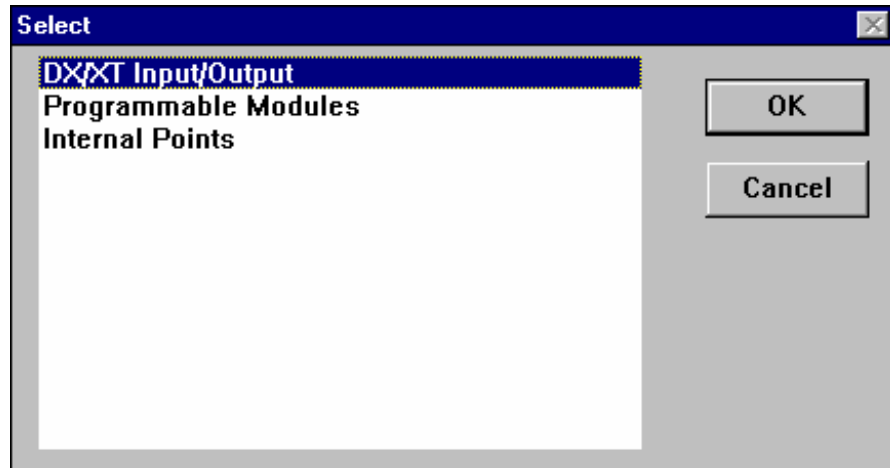

Figure 7-4: Select Item Category Dialog Box
4. Click OK and a Select item category dialog box appears (Figure 7-4).